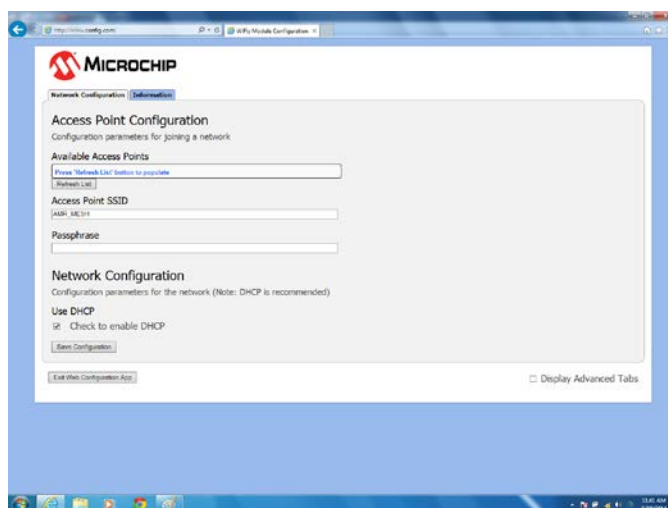

Figure 7: Configuration Webpage
- iv. Once the webpage loads, as shown in Figure 7, the user will have the option of entering the Access Point SSID and the passphrase if using a WPA encryption. The Access Point SSID must match the same setting as the wireless infrastructure. If WEP128 is required, please view "ADVANCED WI-FI CONFIGURATIONS" on page 24 as it requires additional steps.